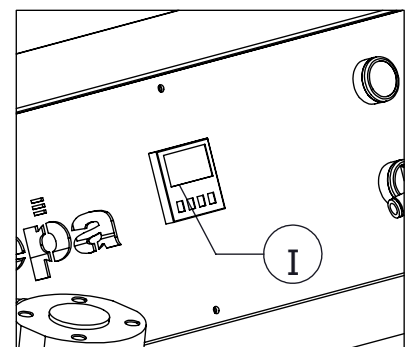

Figure7
5. Enter heat is required to thermostat. (Figure.7-I)